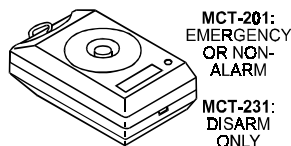

Figure 20. MCT-231 / 201
**B. MCT-231 / MCT-201** (Fig. 20): Single-button pendant units. The MCT-231 (CodeSecure) and the MCT-201 (PowerCode) can be enrolled to perform functions as shown. Both units look alike.